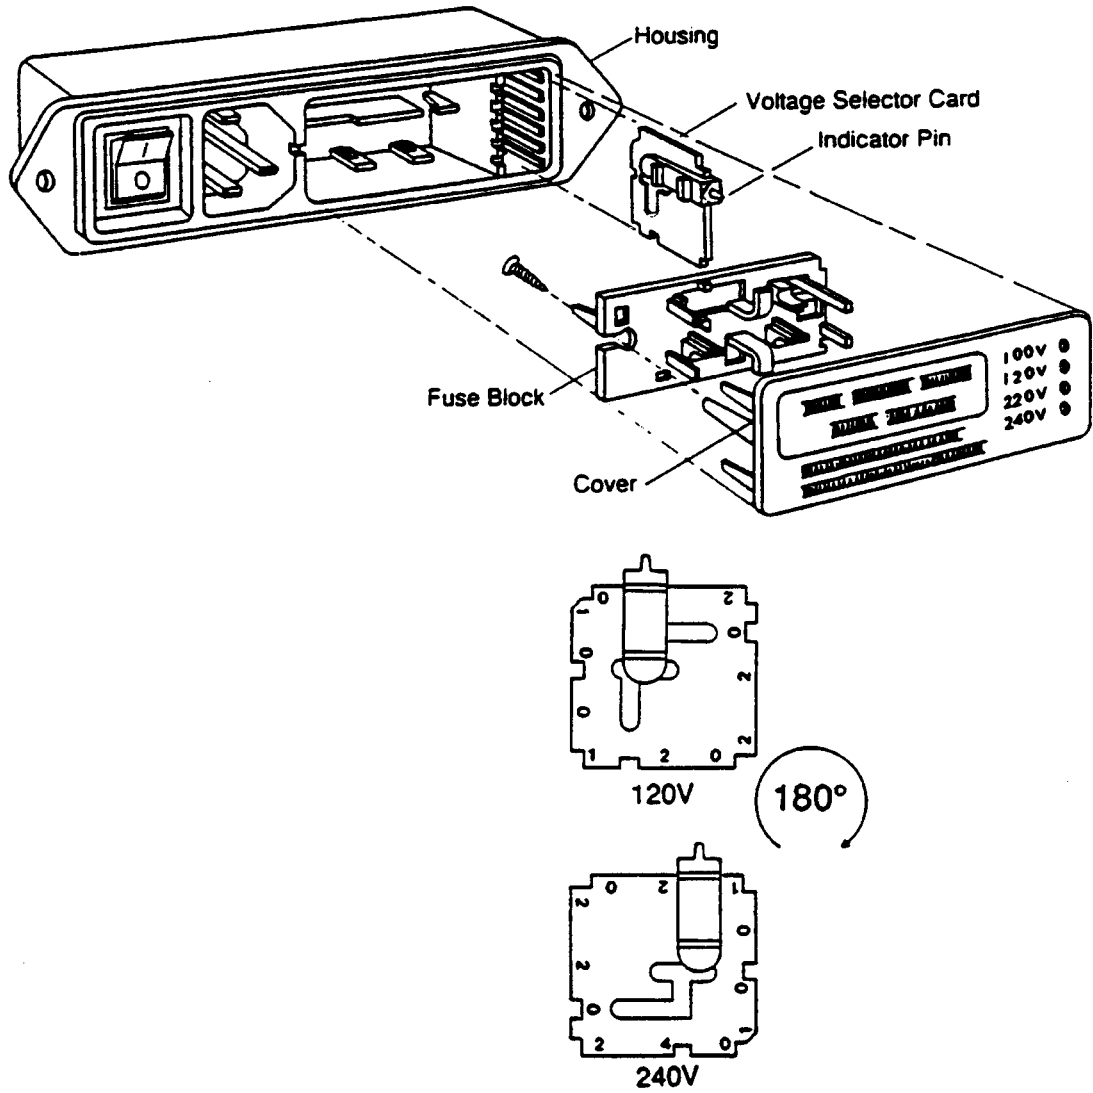

Figure 2: Power Entry Module Voltage Selector
3. Orient the plastic indicator for the proper voltage as indicated in Figure 2, then press the selector card back in place.